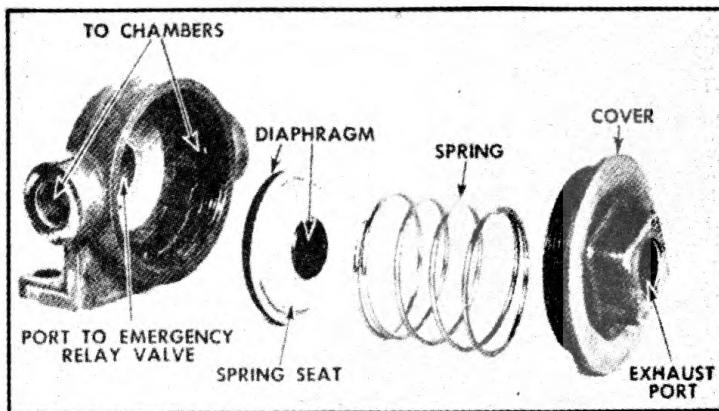

FIGURE 47. QUICK RELEASE VALVE—DISASSEMBLED
18. QUICK RELEASE VALVE.—*a. Operation* (Figure 47).—(1) Quick release valve is mounted on converter gear frame between the two brake chambers.
c. *Disassembly.*—This valve can be disassembled without removing unit from trailer. Screw off cover, remove spring and lift valve assembly out (Figure 47).